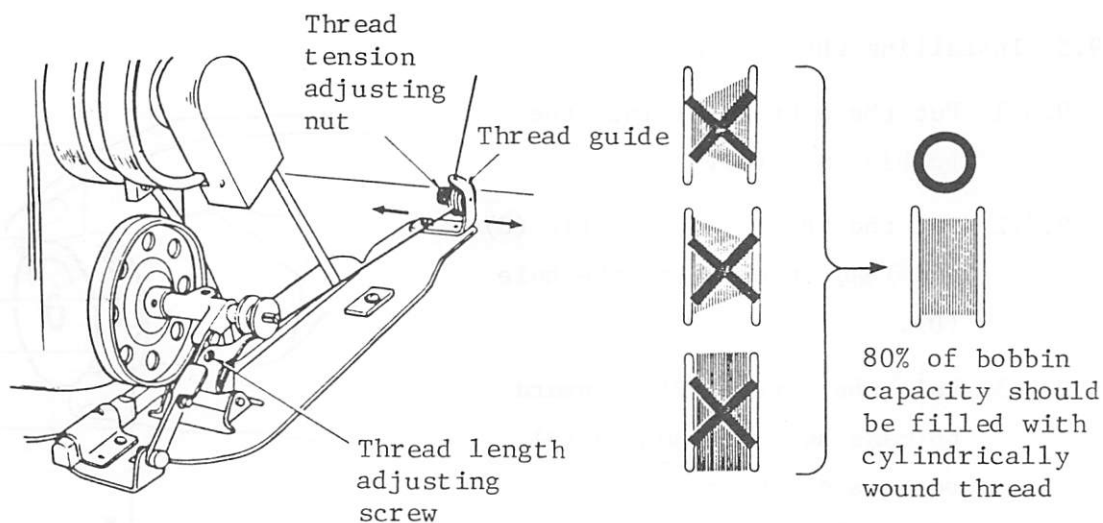

Fig. 9.2
9.2 Winding the bobbin thread (Fig. 9.2)